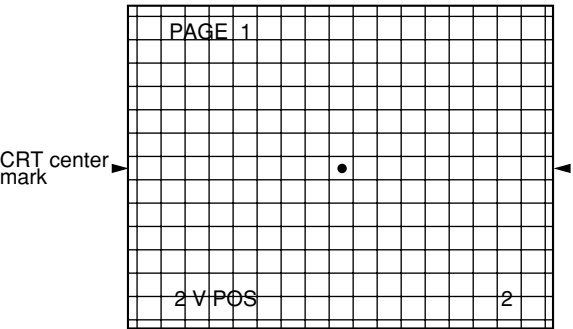

Fig.1-2
- Use the volume keys on the jig remote control to adjust so that the dot mark at the center of crosshatch is positioned at the vertical center of screen. Fig. 1-2